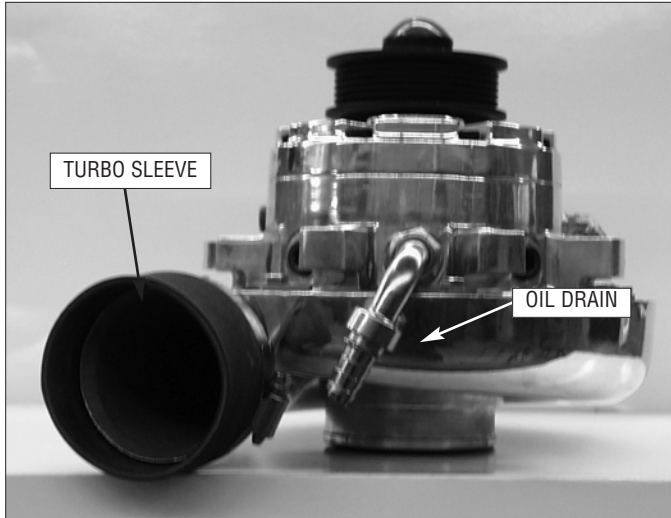

Fig. 6-4
- D. Install the oil drain fitting on the supercharger. Install a 2" long turbo hose (from the discharge tube assembly p/n 1016049) onto the discharge of the supercharger using a #48 hose clamp (place the screw of the clamp in towards the supercharger). (See Fig. 6-4.)